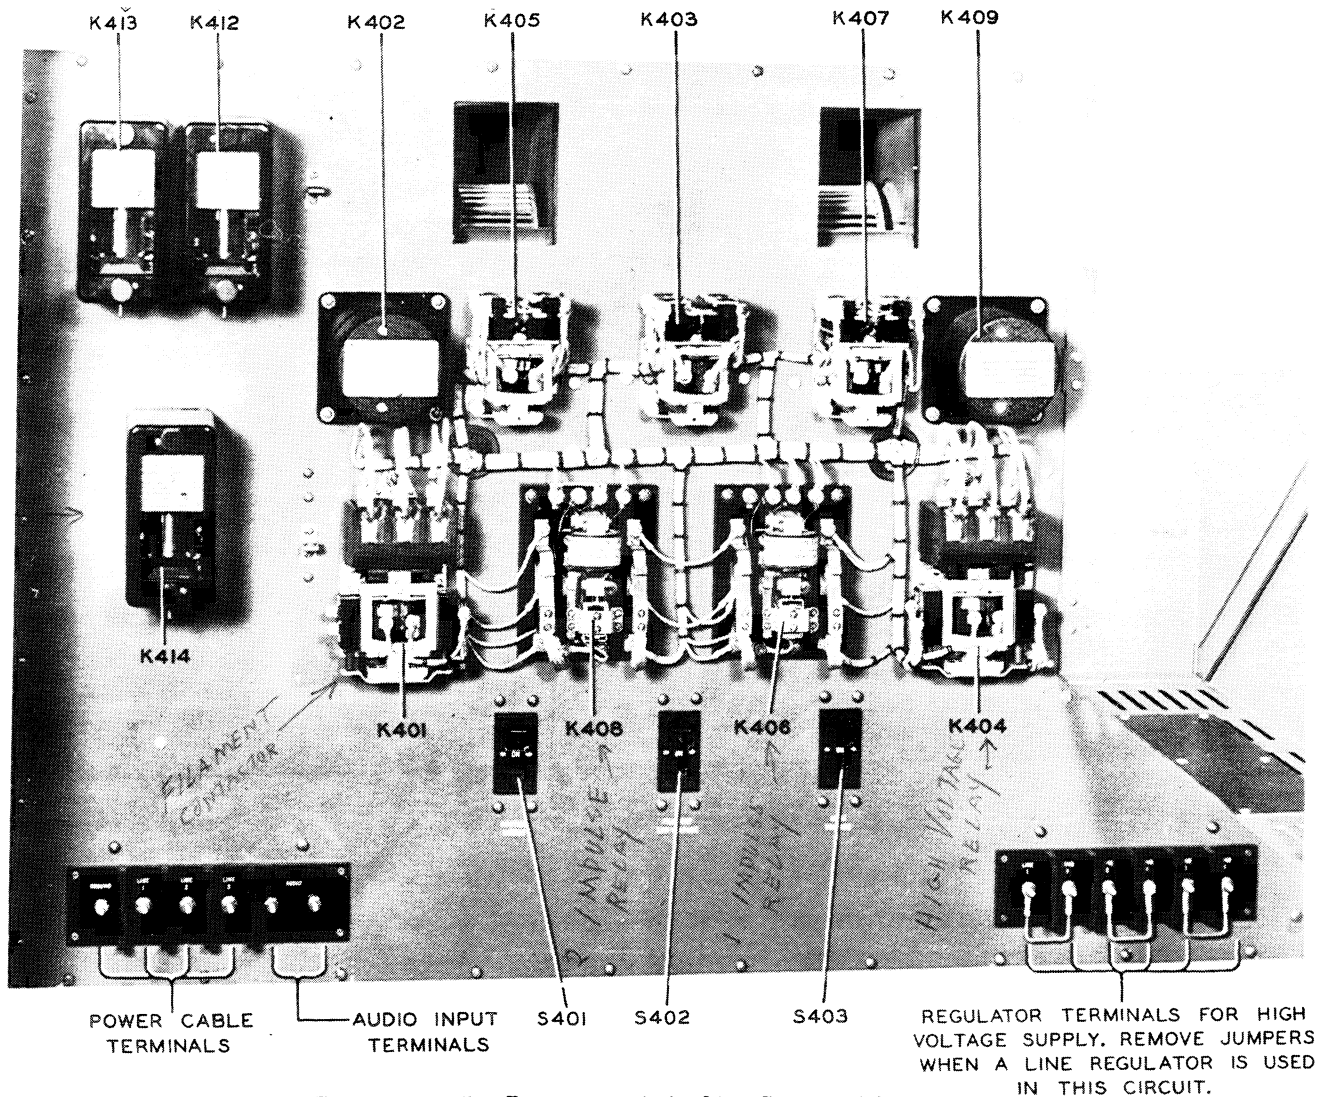
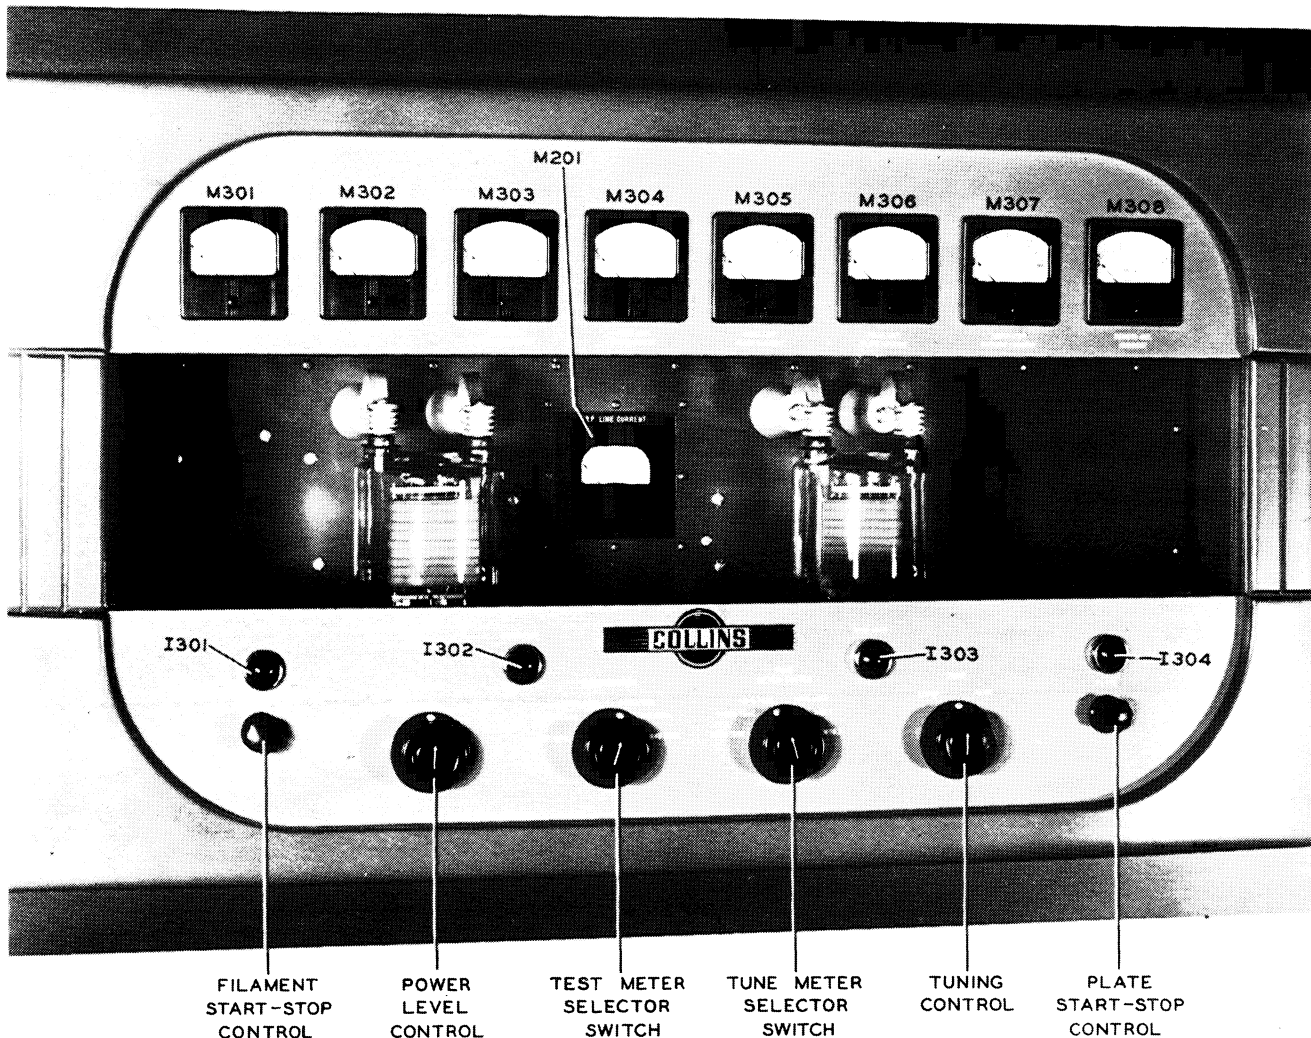

Figure 2-5 Power and Audio Connections
Figure 2-7 Meter and Control Panel
Terminals have been provided on the transmitter for the connection of a constant voltage transformer or an induction type voltage regulator. If the use of a voltage regulator is not necessary the terminals should be "jumped" with bus wire as shown in figure 2-5. Terminal line 1 should connect to load 1, line 2 to load 2 and line 3 to load 3.
2.2.1. General.- The 20T transmitter is operated from controls located conveniently on the front of the transmitter. Refer to figure 2-7. The control panel is mounted on the front door of the R-F and Rectifier Bay and consists of a Filament Power Control, a Plate Power Control, a Power Level Switch, a Test Meter Selector Switch, a Tune-Meter Selector Switch and a Tuning Control. Three magnetic Circuit Breakers, S401, S402 and S403, are located on the vertical chassis of the Audio and Control Bay. Refer to figure 2-5.